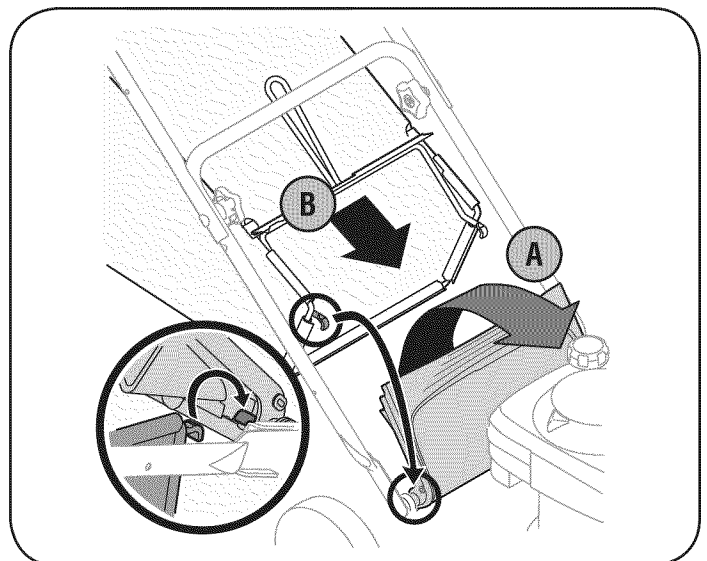

Figure 6
- a. Lift rear discharge door. See Figure 6.